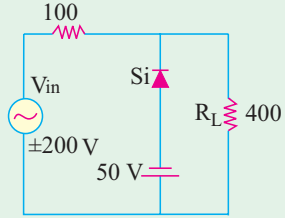

Fig. 52.54
6. What is the waveform of the voltage across  $R_L$  in Fig. 52.54 ?